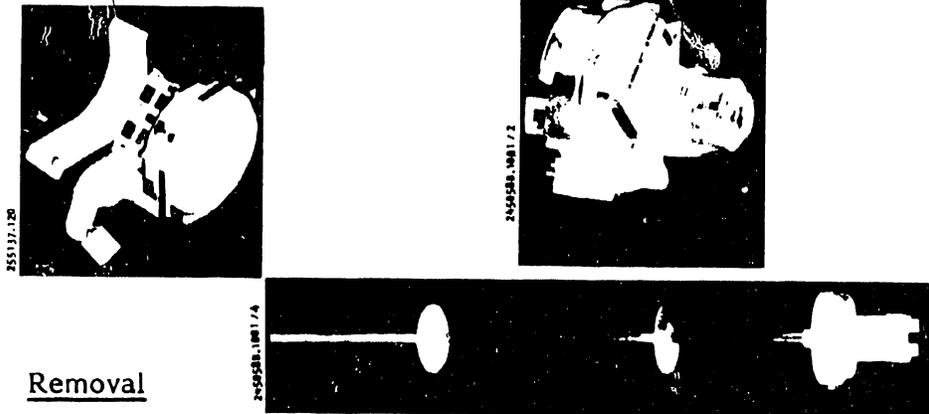

Figure 3-129. Ribbon Rollers Removal/Installation
3.7.57 Ribbon Rollers Removal/Installation (Figure 3-129)
- a. Place the ribbon rollers in position as shown in figure 3-129.